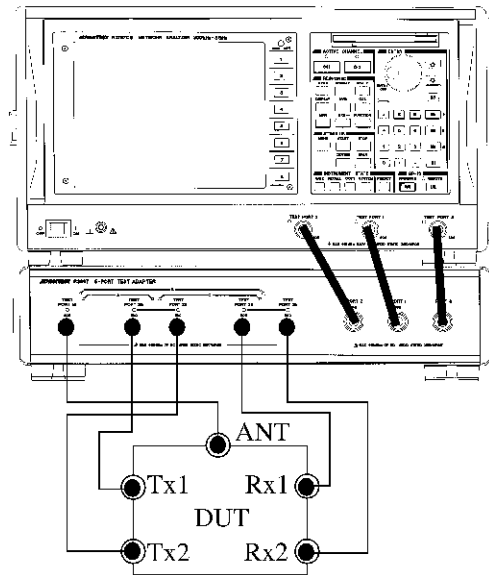

Figure 4-1 R3967 OPT10 Setup Diagram
1. Figure 4-1 shows the setup.